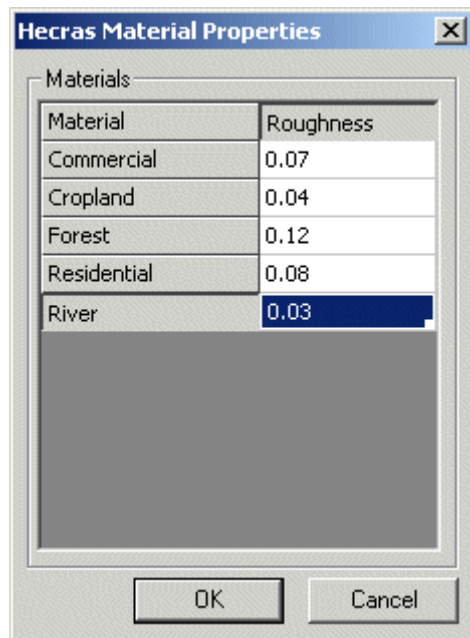

Figure 23-7 HECRAS Material Properties Dialog
39. Enter the roughness values for each material as shown in Figure 23-7.